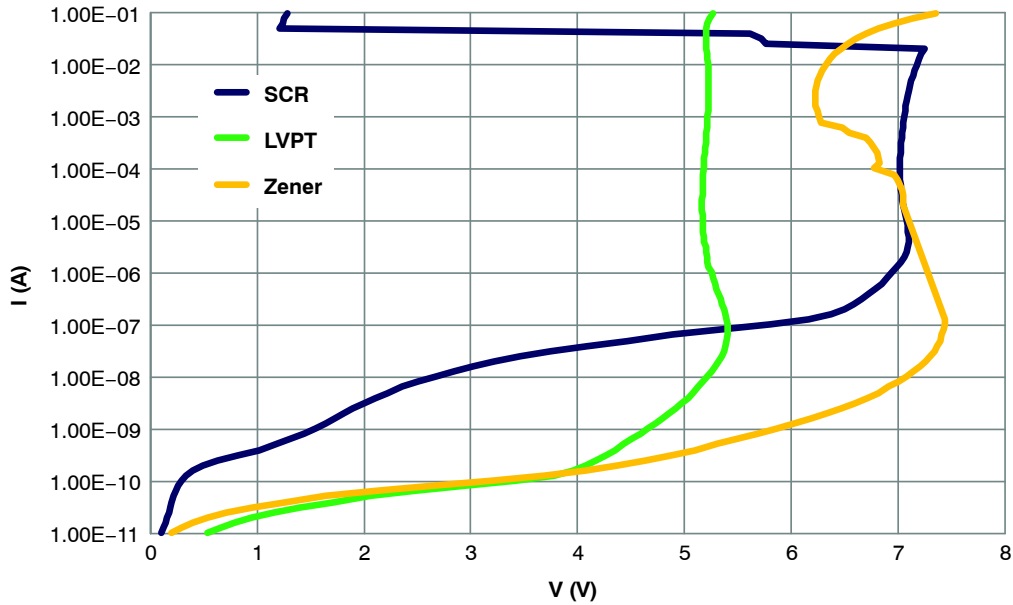

Figure 19. Low Current, DC, IV Characteristic Technology Comparison
- Low voltage punch through (LVPT): The key advantage for this technology is a very low turn-on voltage as shown in Figure 19. This technology provides optimized protection for chipsets with small geometries against recoverable failures due to voltage peaks (also known as “soft failures”).